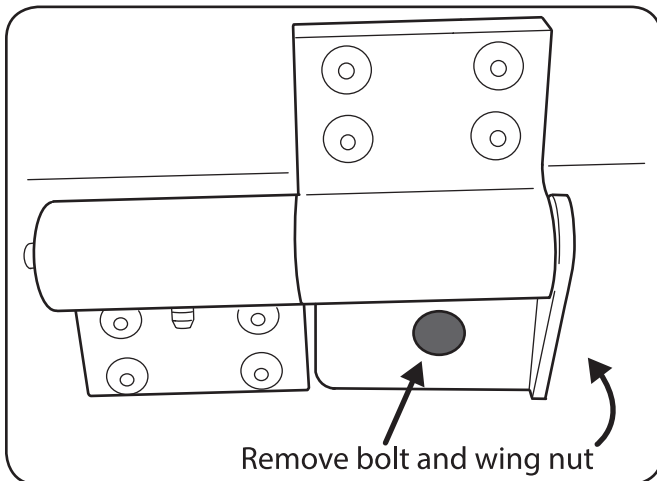

Figure 4-4
1. Remove wing knob, bolt and retaining bracket from the sides and the tailgate. See Figure 4-4.